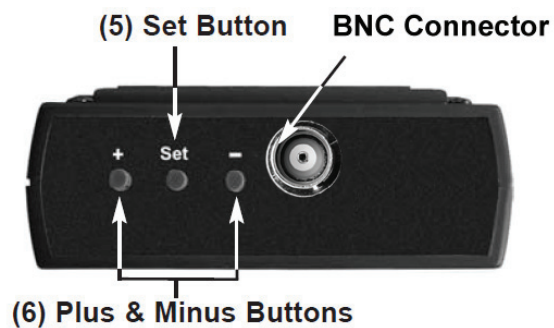

Figure 3
Set Button *Figure 3 (5)*
+ and - Buttons *Figure 3 (6)*